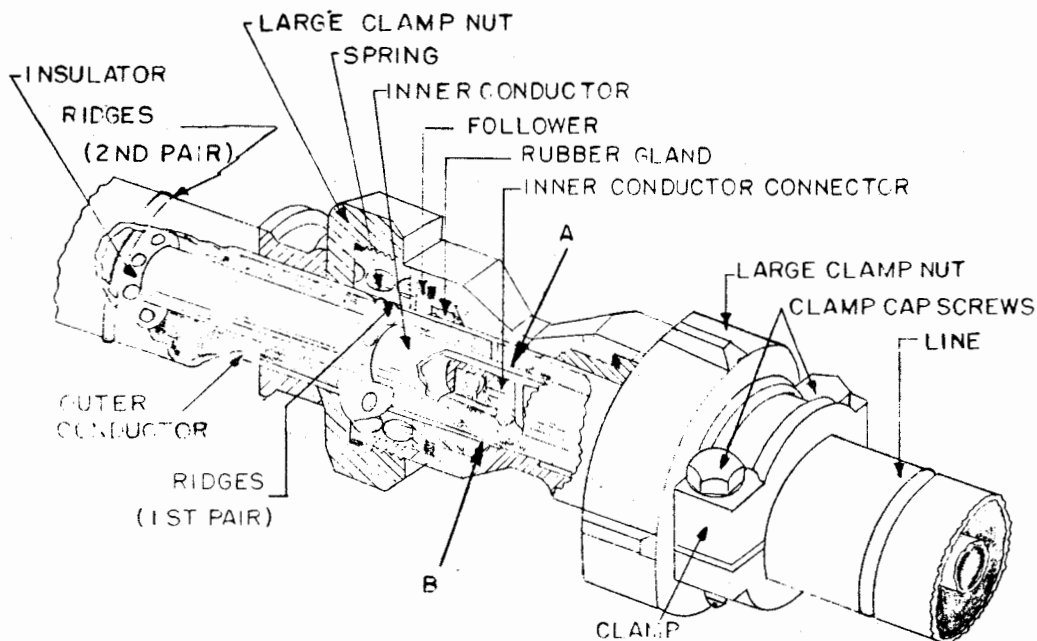
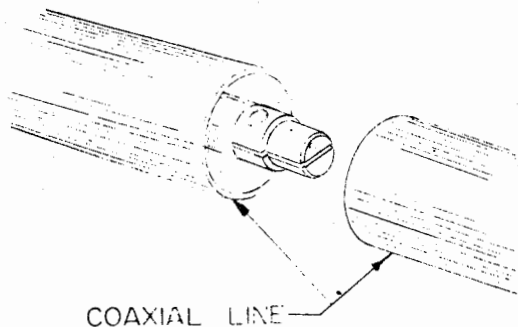

Figure 11-77. Cutaway View of Solderless Coupling Joint
Figure 11-78. Inserting Inner Conductor Connector
(1) STRAIGHT COUPLINGS.— These couplings are made up of the parts shown in Figure 11-68 and Figure 11-77. They are to be installed as follows:
(a) Push the inner conductor connector into the center of the inner conductor on one end of the straight line section until the shoulder is tight against the end of the conductor. See Figure 11-77 and Figure 11-78.
(d) Place the coupling on the end of the transmission line section that has the inner conductor connector in place. The coupling should be pushed onto the end of the line until all of the scribed marks between the first and second pair of insulator ridges are covered by the coupling clamp nut. When the marks are thus covered, the outer conductor is seated solidly against the shoulder in the body of the coupling. See point B on Figure 11-77.